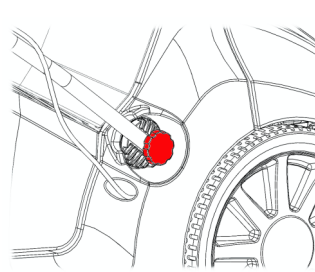
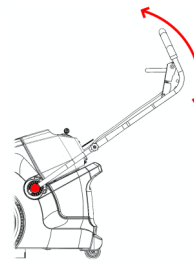

Fig. 1:
Fig. 3:
- Adjust the transport bar with the star grips for the operator (Fig. 1 + Fig 3)